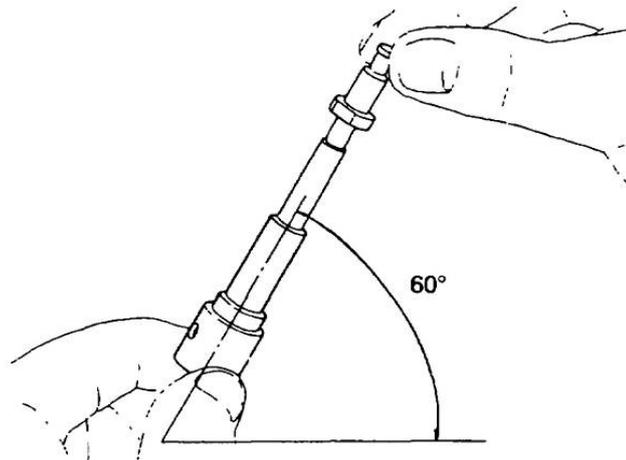

Figure 77 Checking the Plunger for Smooth Operation
- e. Lubricate each barrel and plunger assembly in clean diesel fuel. Check that when the assembly is inclined at 60 degrees each plunger slides smoothly into the barrel under its own weight (Figure 77). Rotate the plunger slightly several times and check that each time the plunger slides smoothly into the barrel. Replace the barrel and plunger assembly if the plunger fails to slide smoothly, or if it slides too quickly into the barrel.